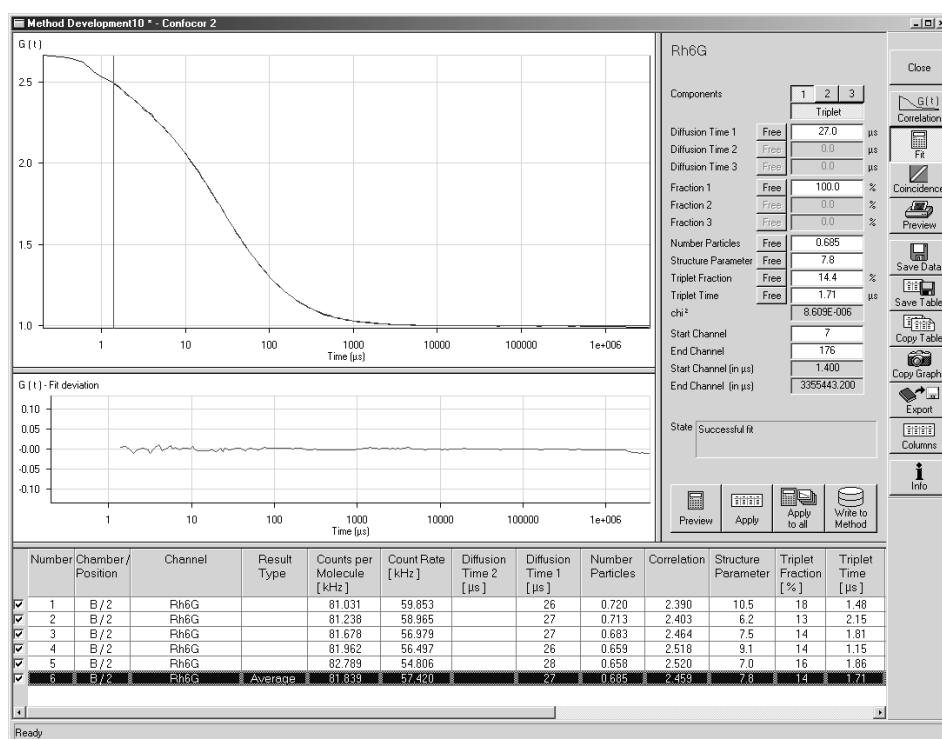

Fig. 3-107 Display fit
- A **Fit** menu subordinate will appear (Fig. 3-107).